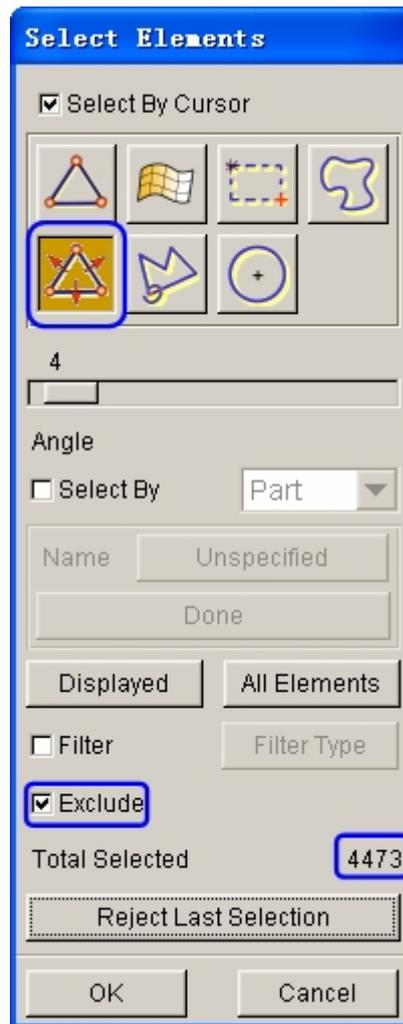

Figure 5.49 Selected elements
14. Click **DISPLAYED** to select all elements in the display area. Then, toggle on the **Exclude** option, as illustrated in Figure 5.49.
16. Pick an element on the binder surface. You observe the highlighted elements in binder surface are removed. The program prompts that 4462 elements are selected. See Figure 5.49.